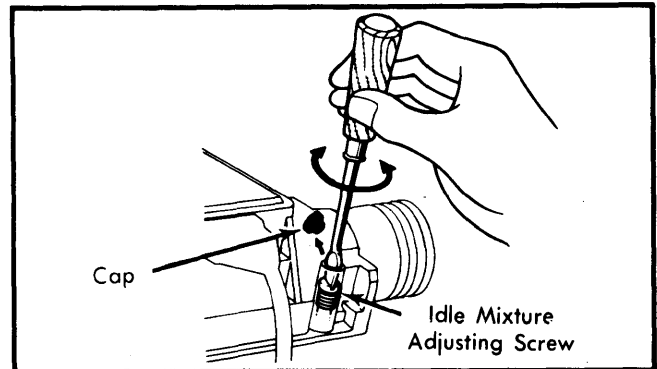

Fig. 5 Idle Mixture Adjusting Screw (Fuel Injected Models)
- 3) Warm up engine at 2500 RPM for 2 minutes. Voltmeter needle should fluctuate. If not, adjust idle mixture needle until it does. See Fig. 5.